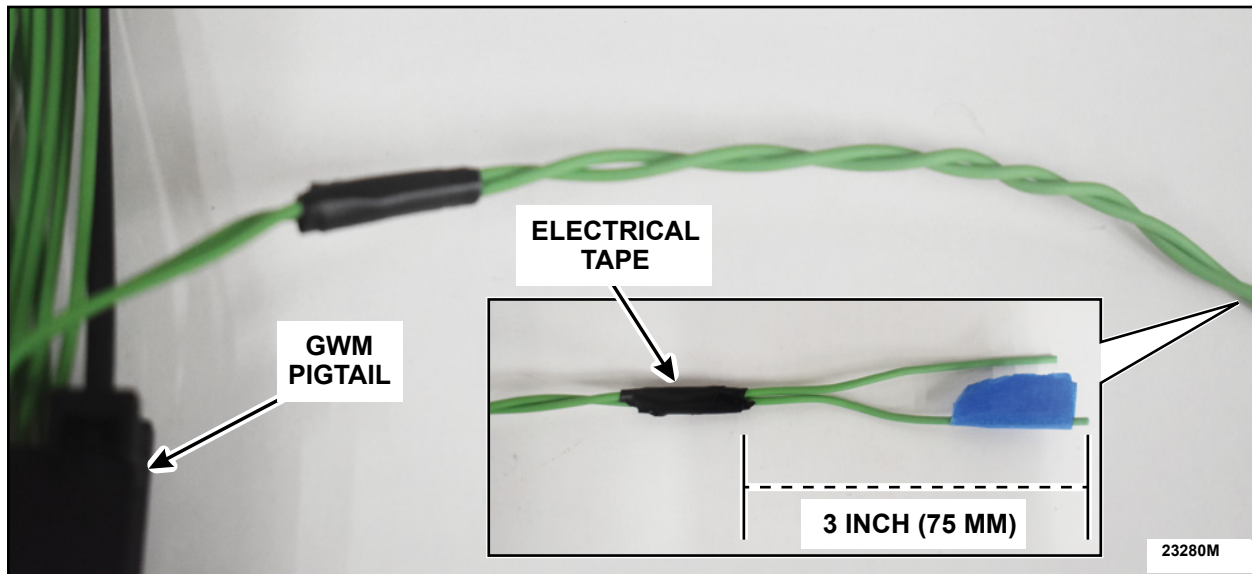

FIGURE 8
13. Twist pins 19 and 20 together working towards the splice end and stop leaving 3 inches (75 mm) of wire at the end of the pig tail. Apply a piece of electrical tape at the 3 inch (75 mm) mark. See Figure 8.